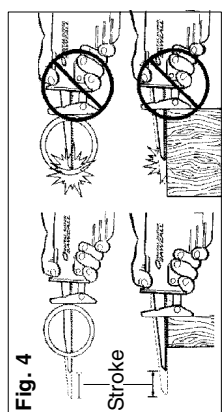

Fig. 4
**To reduce the risk of injury, be sure the blade always extends beyond the shoe and work throughout the stroke. Blades may shatter if they impact the work or shoe (Fig. 4).**